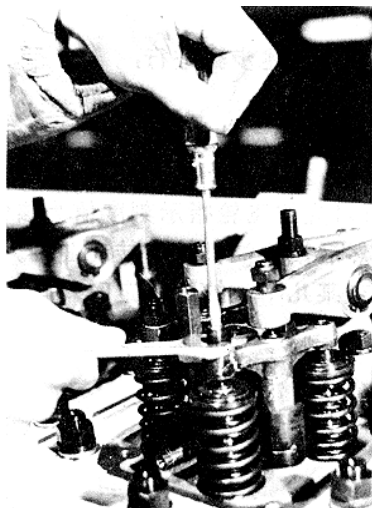
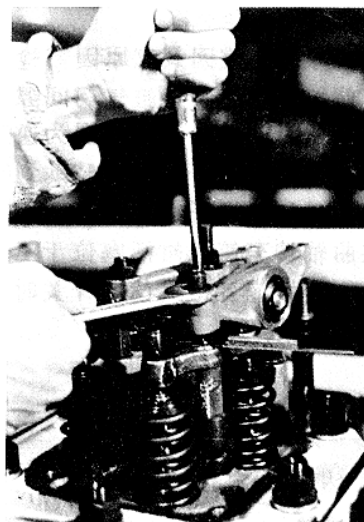

Fig 3-2
Fig 3-3 Adjusting of Valve Clearance
- (1) Adjusting valve clearance; adjust the adjusting screw to make its bulbs on both ends contact top surfaces of both valves with same name without gap as shown in fig. 3-2; then adjust gap between the rocker arm and rocker arm bridge as shown in fig. 3-3. Loose the lock nuts, then insert a suitable feeler between the rocker